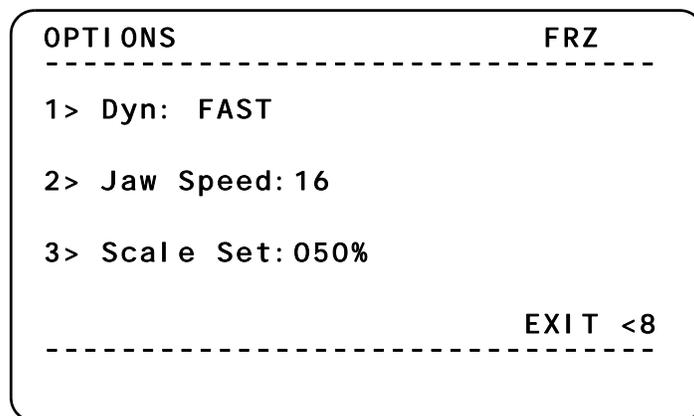

Figure 14 OPTIONS menu
1. From the MAIN menu press the 2> OPTIONS key to display the OPTIONS menu (Figure 14).